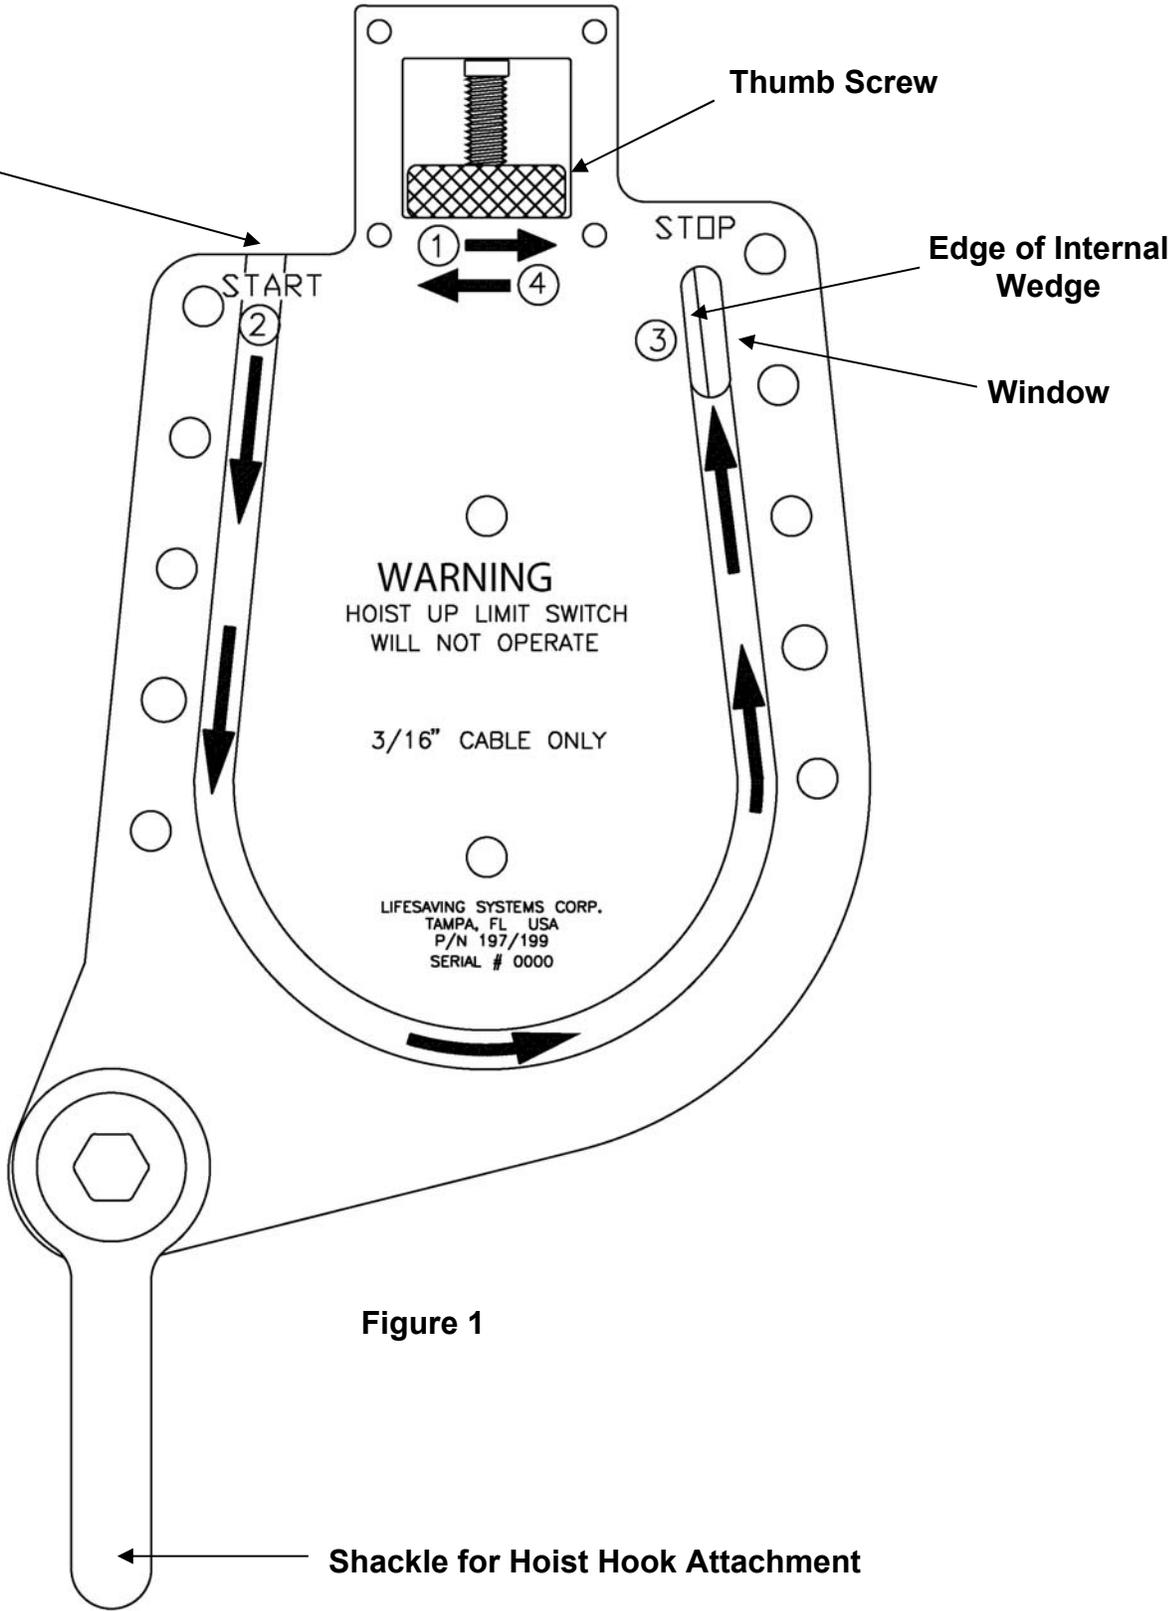

Figure 1
Cut the hoist cable above the damaged area with a suitable cable cutter (LSC cable cutter P/N 195 is recommended). Re-twist the cable strands of the cut cable as required. Refer to figure 1 on back for the following steps: Rotate the thumbscrew fully counter-clockwise as per instruction (1) on the housing. This positions the wedge for cable installation. Check for ease of wedge travel by lifting the thumbscrew. The wedge must have full range of travel in the housing for sufficient grip on the cable to occur. Never use the Quick Splice if any doubt about its condition or proper use. Full travel of the wedge can be confirmed visually through the window (3). Without the cable installed, the wedge should freely travel from the bottom to the top of the window. Hold the Quick Splice upright and insert the cable between the side plates at the (2) start position. Looking down into the top, guide the cable between the housing and the wedge. Allow 4" to 5" of cable to extend from the bottom and ensure that the cable does not pass through the shackle or bail of the hook. Pass the end of the cable between the wedge and the housing on the other side until it stops at the top of the window (3). Carefully pull the cable from the top of the Quick Splice to remove all slack from the cable at the bottom of the wedge. Recheck the window (3) to ensure cable is fully inserted. Rotate thumbscrew clockwise (4), finger tight. Wedge should have moved up approximately 1/3 to 1/2 the length of the window. The top corner of the wedge is visible in the window. Try to pull the cable from the Quick Splice. When properly installed, you should not be able to pull any cable from the Quick Splice.